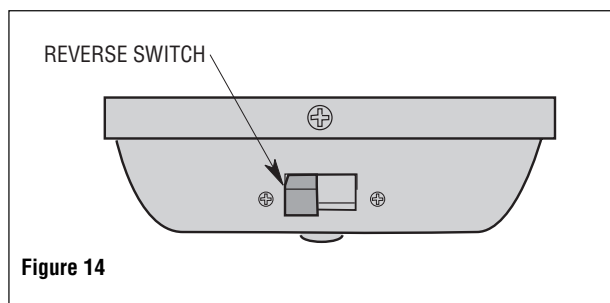

Figure 14
1. All fans are shipped from the factory with the reversing switch positioned to circulate air downward. If airflow is desired in opposite direction, turn your fan off and wait for the blades to stop turning, then slide the reversing switch to the opposite position, and turn fan on again (Figure 14).